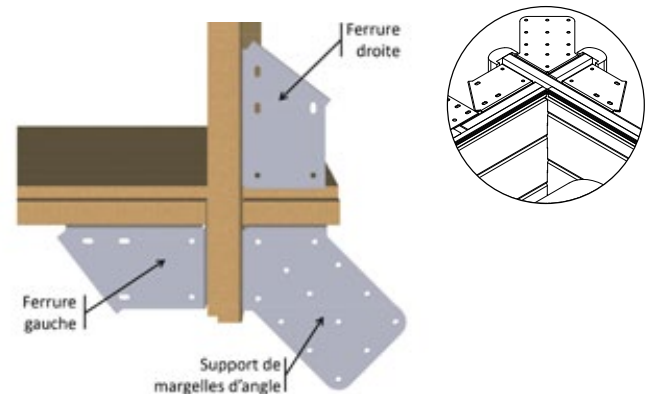

Figure 18 – Mounting the fitting in the corners
- In each of the corners, mount a right-hand fitting, a left-hand and a corner fitting as shown in *Figure 18*. Use 4 safety screws 6 × 20, A2 SS (bag G) per corner fitting 6 safety screws 6 × 20 in A2 SS (bag G) per fitting, that is a total of 64 screws.